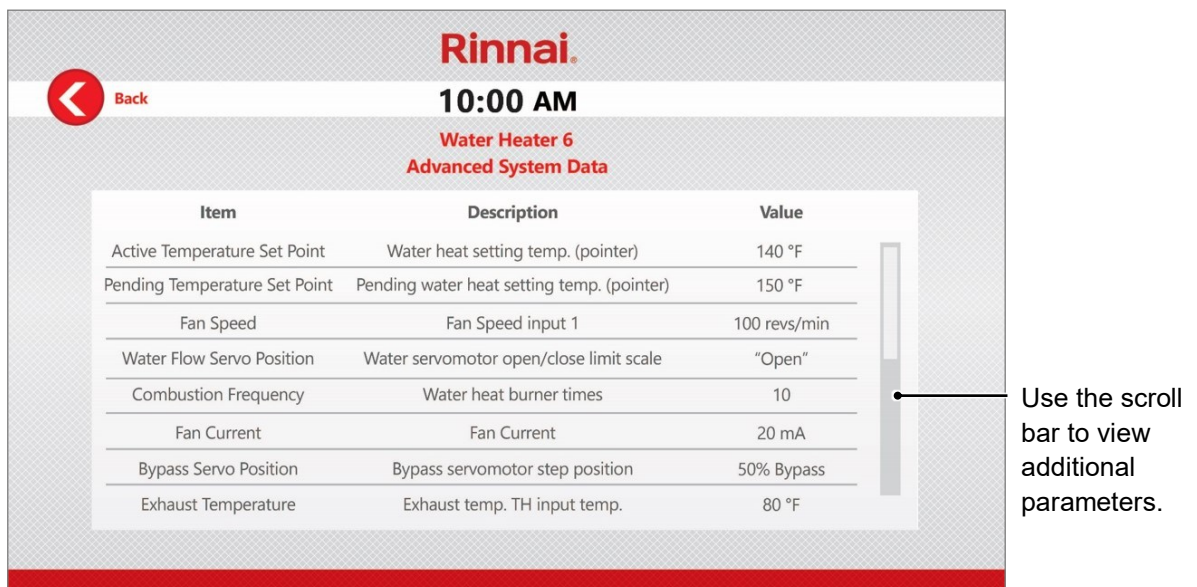

Fig 85. “Advanced System Data” Screen
2. The “Advanced System Data” screen appears (Fig 85).